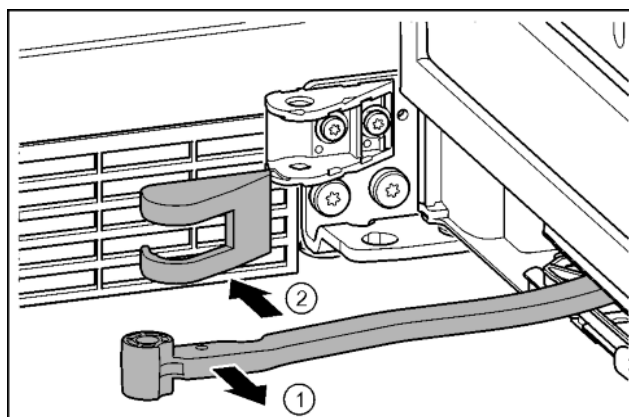

Fig. 15
- Turn the hinge in the direction of the door. Fig. 15 (1)
- Remove the bearing bracket cover. Fig. 15 (2)